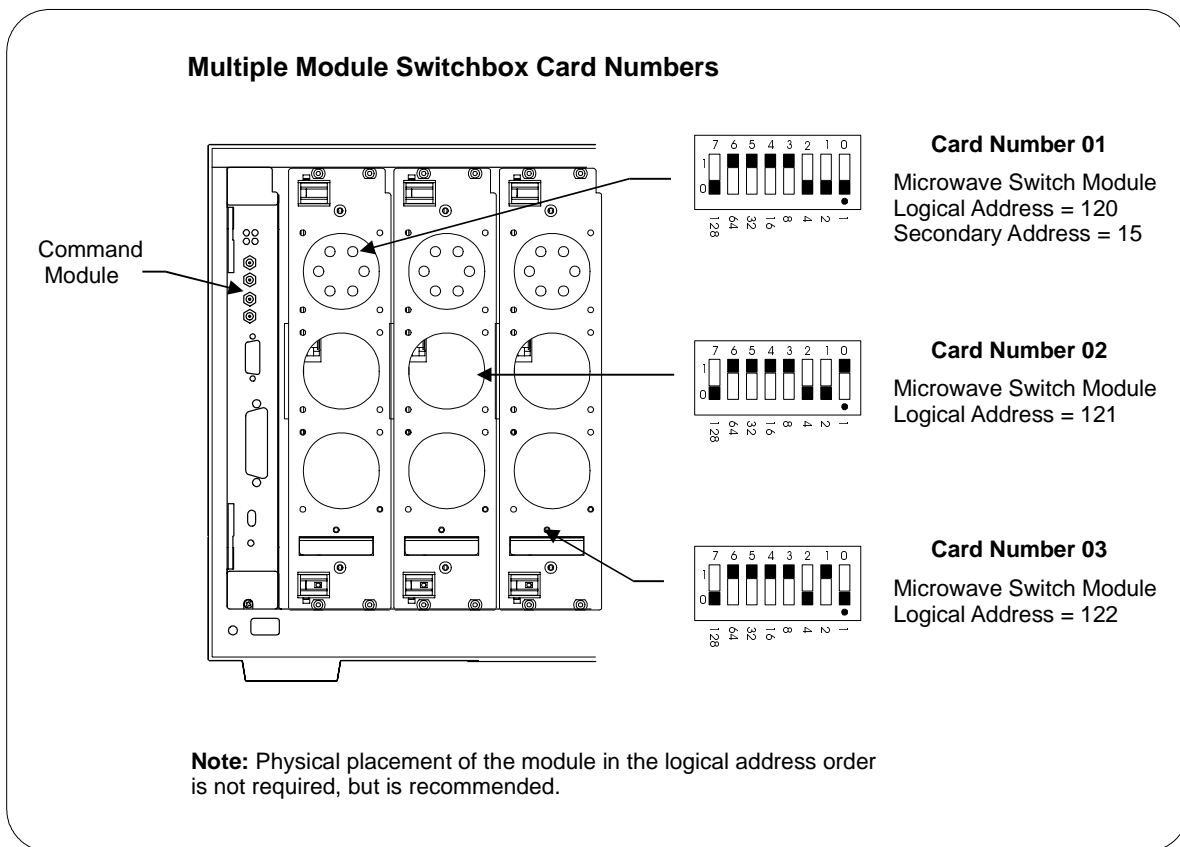

Figure 1-5. Card Numbers in a Multiple-modules Switchbox
- **Multiple-module Switchbox.** In a multiple-module switchbox configuration, modules are set to successive logical addresses. The module with the lowest logical address is always card number 01. The module with the next successive logical address is card number 02, and so on. Figure 1-5 illustrates the card numbers and logical addresses of a typical multiple-module switchbox installed in an Agilent C-Size mainframe with an Agilent command module.